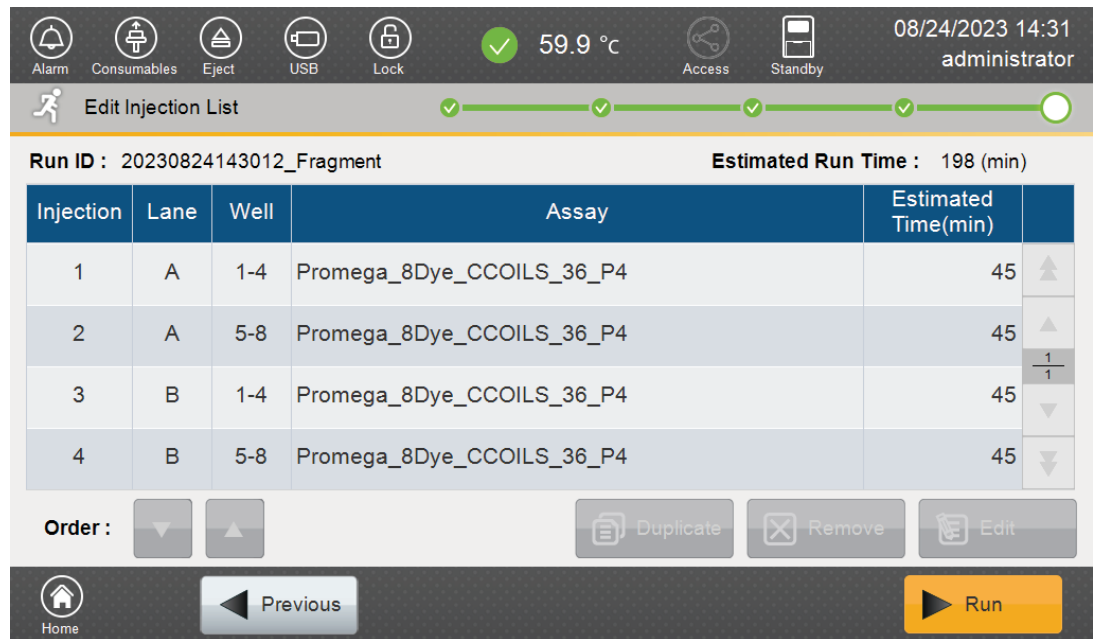

Figure 26. 'Edit Injection List' screen.
4. After the autosampler has returned to its home position, the 'Edit Injection List' screen will be displayed (Figure 26).